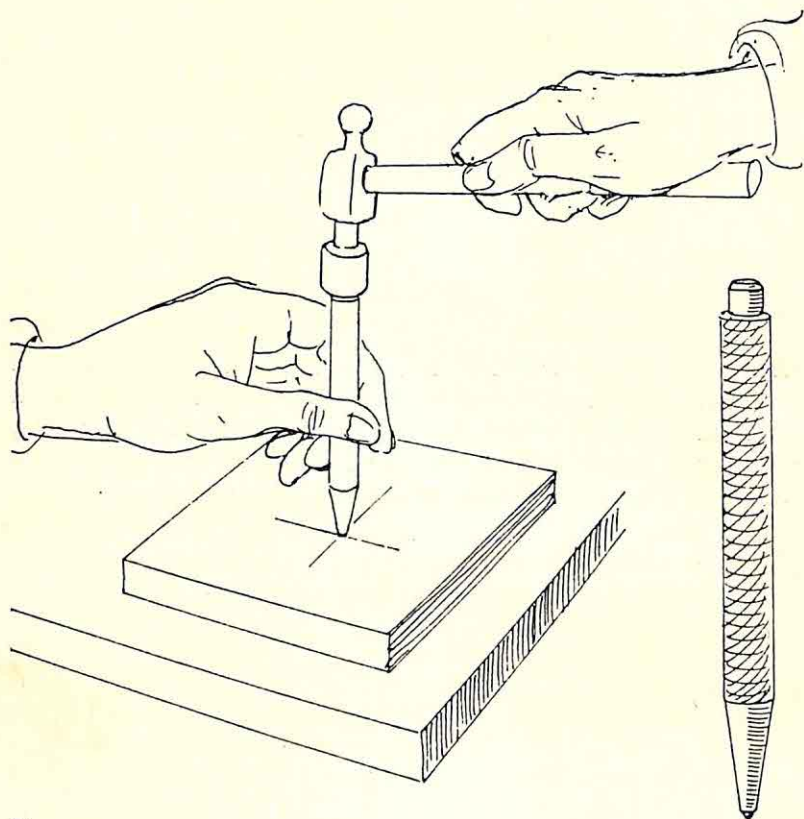

Figure 50
2. Mark the centre with a centre punch (see Figure 50). A slight dent should be made in the metal with a centre-punch and hammer.